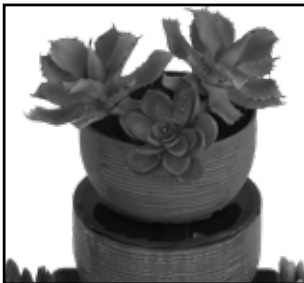

Figure 4
- There are 2 small holes on the bottom of the planter that will allow water to be absorbed from the bottom of the bowl when fountain is running (Figure 4, 5 & 6).